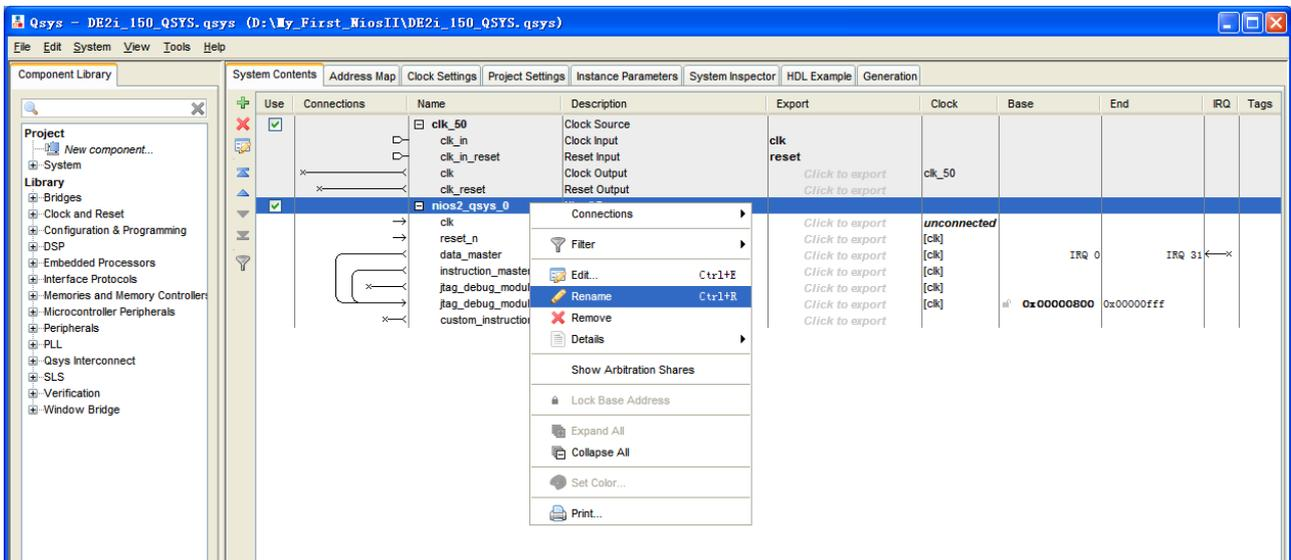
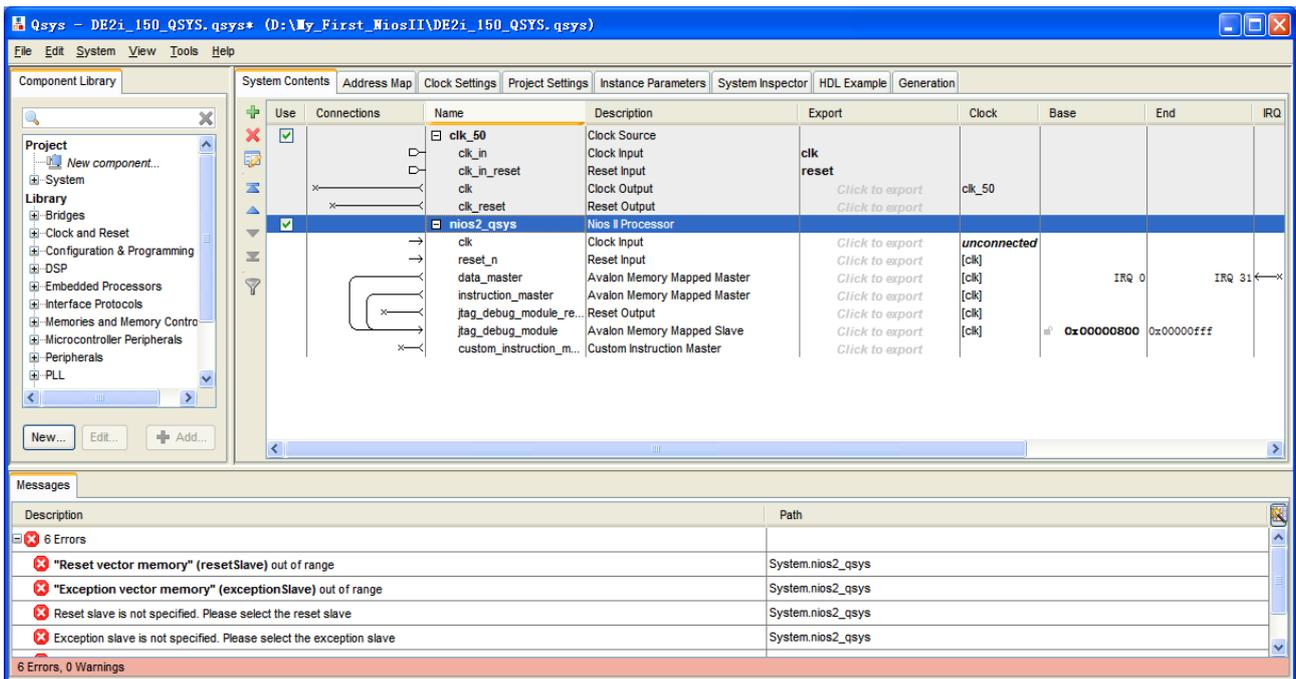

Figure 1-18 Rename CPU name (1)
Figure 1-19 Rename CPU Name (2)
- Choose **nios2_qsys_0** and right-click then choose **rename**, after this, you can update **nios2_qsys_0** to **nios2_qsys**. See Figure 1-18 and Figure 1-19.